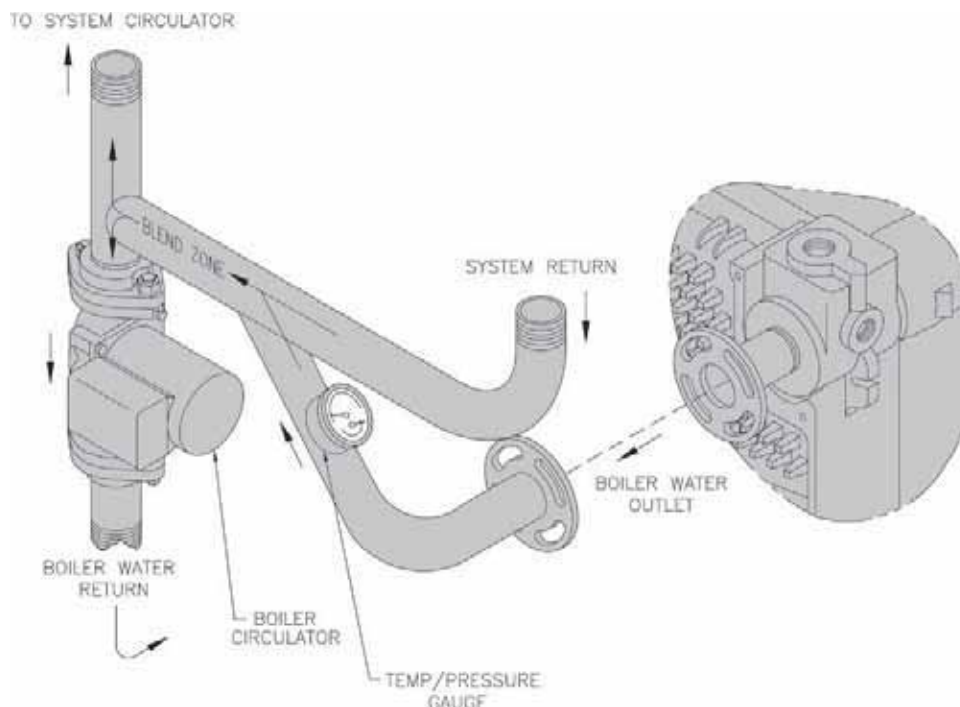

Figure 50: Internal Primary / Secondary Piping
2. Refer to Figure 50 for a flow diagram of the boiler circulator piping.